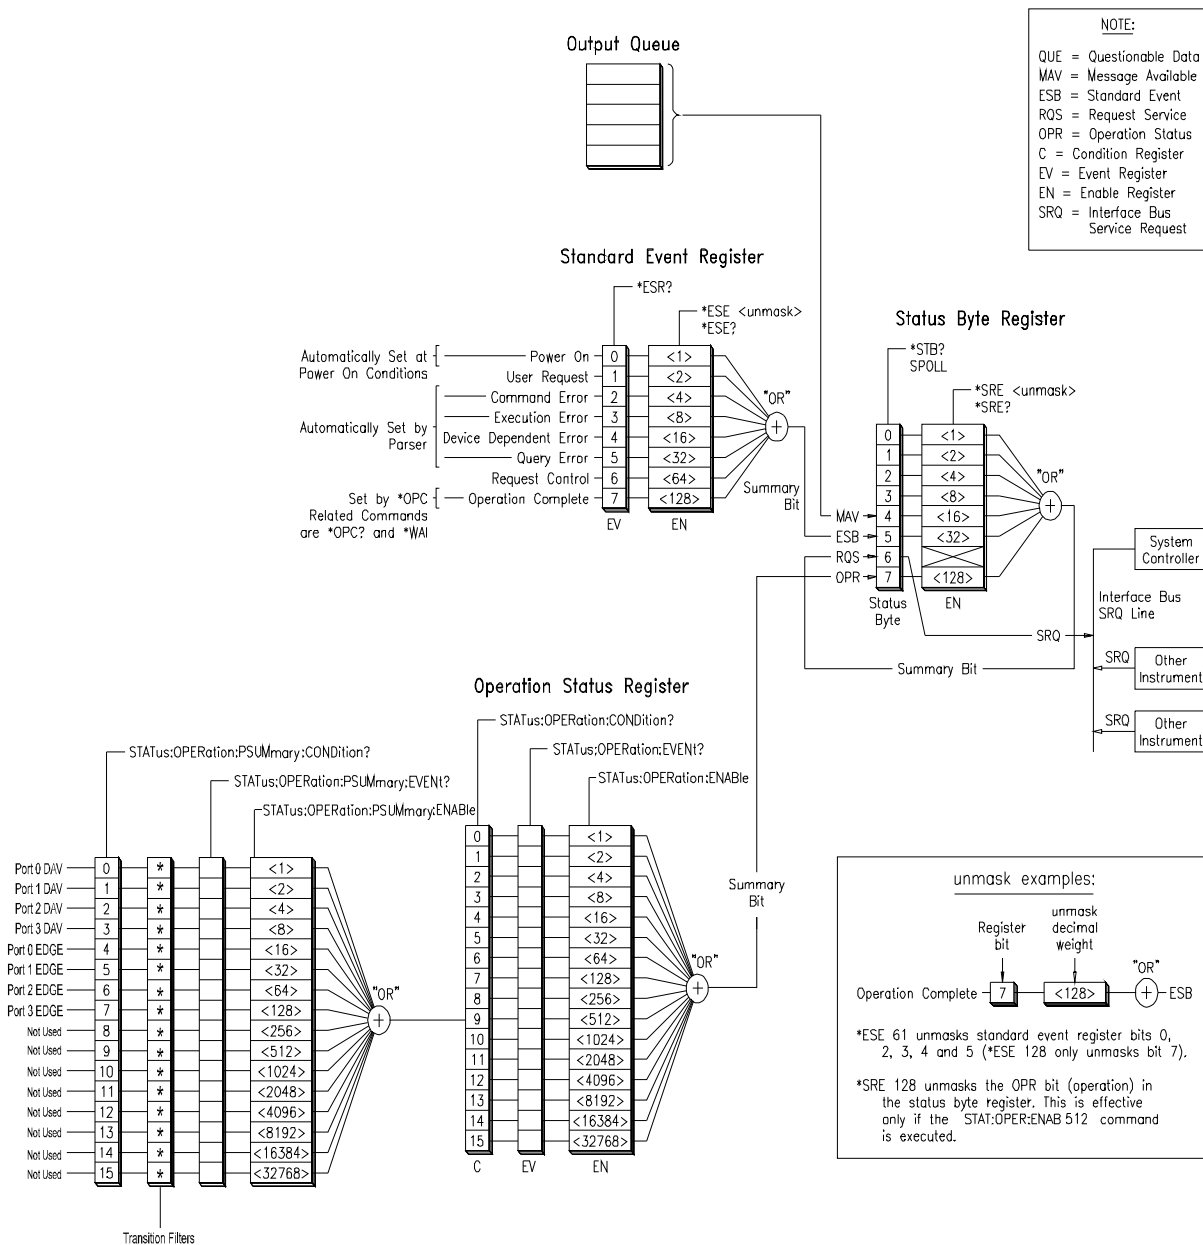

Figure 3-1 Keysight E1459A Status System Register Diagram
Event Status Register (the bits you want logically "OR'd" into the Summary bit). The registers are queried using decimal weighted bit values. The decimal equivalents for bits 0 through 15 are included in Figure 3-1.
- <mask> determines which OPERation Status conditions are summed. See Figure 3-1. The events detected in the Port Summary Status Register are reported in bit 9 of the Operation Status Register which in turn is reported in bit 7 of the Status Byte Register.
- The only defined bit is bit 9 which is the summary of the Data Available and Edge Status for Ports 0, 1, 2, and 3. See Figure 3-1.
- Bits 0 through 3 reflect Data Available on Ports 0 through 3 respectively; bits 4 through 7 reflect edge events on Ports 0 through 3 respectively. See Figure 3-1.
- This mask determines which Operation Status Port Summary Events are summed and reported in bit 9 of the Operation Status Register. Bits 0 through 3 reflect Data Available on Ports 0 through 3 respectively; bits 4 through 7 reflect edge events on Ports 0 through 3 respectively. See Figure 3-1.